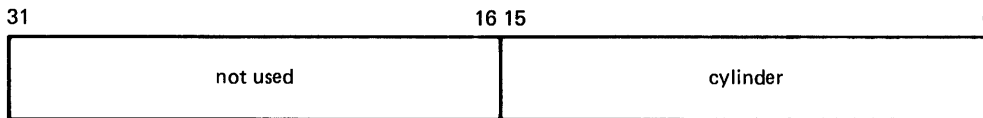

Figure 3-3 Physical Cylinder Number Format
- P1 -- the physical cylinder number to position to. The address is expressed in the format shown in Figure 3-3.